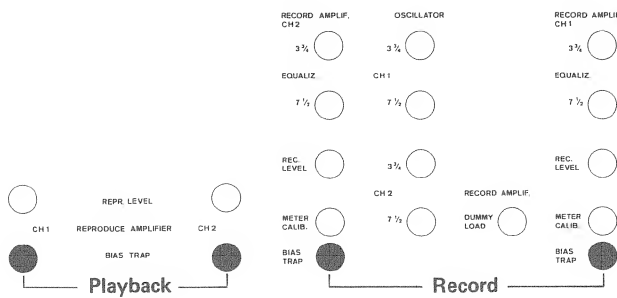

Fig. 6.4–64
- Under same conditions as 6.4.3. but, connect VTVM to OUTPUT terminals CH 1 and CH 2 and set BIAS TRAP of playback amplifier to a voltage minimum : Less than < 50 mV (fig. 6.4 –64).